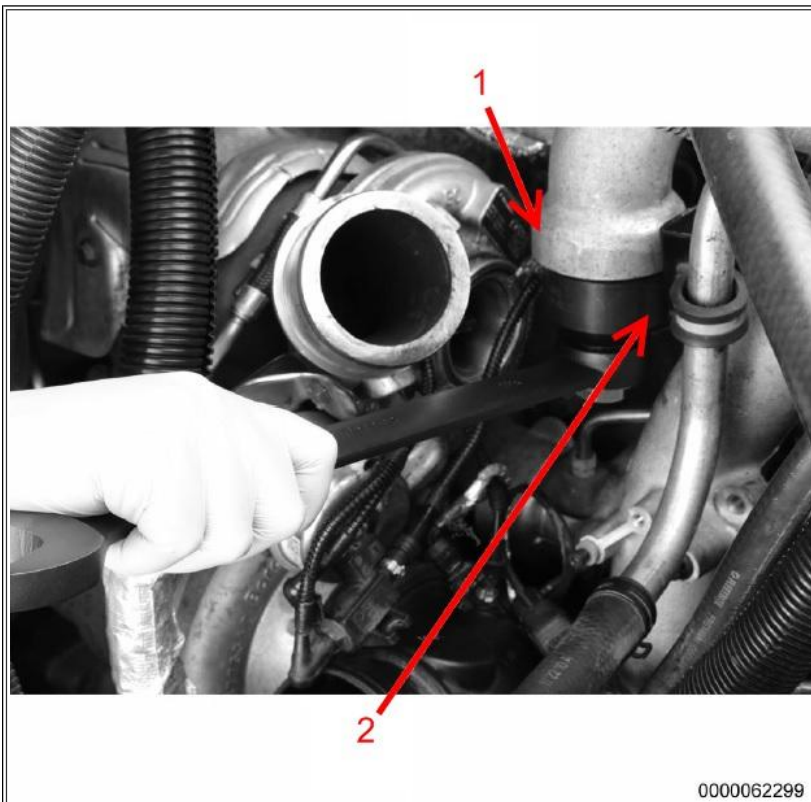

Figure 7: ISC Seal Removal
16. Install ZTSE4937-2 seal remover (**Figure 7**, Item 2) into ISC Outlet Seal (**Figure 7**, Item 1).